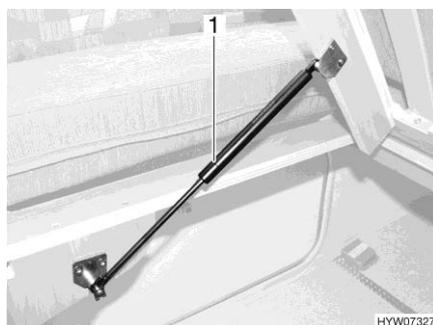

Fig. 133 Fixed bed
- Lift slatted frame. The gas-pressure springs (Fig. 133,1) hold the slatted frame open.